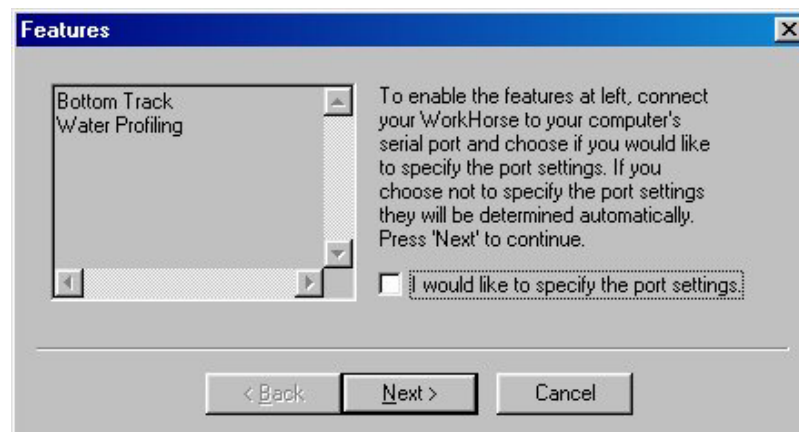

Figure 15. Installing Feature Upgrades
- d. In the **Open** box, type A:\xxx.exe, where xxx is the ADCP’s CPU serial number. The installation program will start (see Figure 15). The program is encoded with the ADCP’s serial number and the requested feature upgrade.